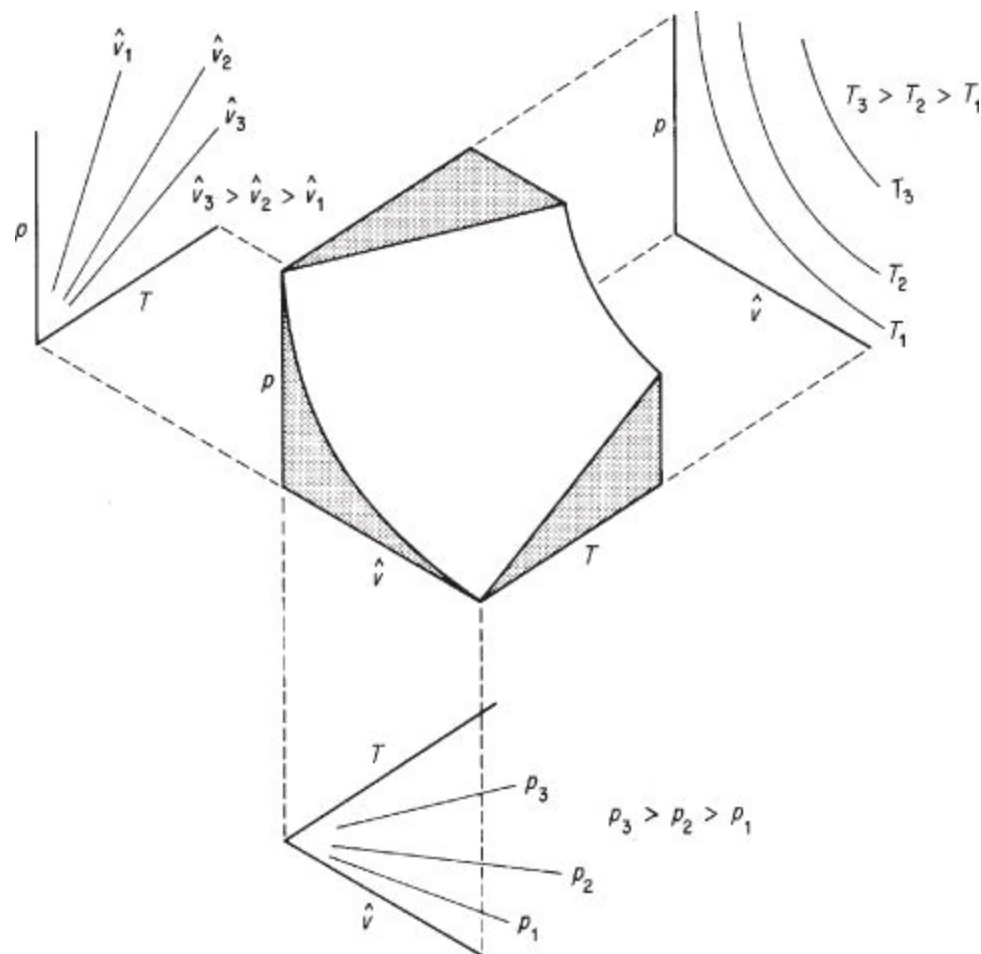

Figure 7.2. Representation of the ideal gas law in three dimensions as a surface
Note that in Equation (7.1a) \hat{V} is the *specific molar* volume (volume per mole, V/n) of the gas. When gas volumes are involved in a problem, \hat{V} will be the volume per mole and not the volume per mass. The inverse of \hat{V} is the molar density, moles per volume. Figure 7.2 illustrates the surface generated by Equation (7.1a) in terms of the three properties p , \hat{V} , and T . Look at the projections of the surface in Figure 7.2 onto the two-parameter planes. The interpretation is as follows:
Although you cannot easily measure the partial pressure of a gaseous component directly with commercial instruments, you can calculate the value from Equation (7.5) and/or Equation (7.6). To illustrate the significance of Equation (7.5) and the meaning of partial pressure, suppose that you carried out the following experiment with two nonreacting ideal gases. Examine Figure 7.2. Two tanks of 1.50 m³ volume, one containing gas A at 300 kPa and the other gas B at 400 kPa (both gases being at the same temperature of 20°C), are connected to an empty third tank (C) of the same volume. All of the gas in tanks A and B is forced into tank C isothermally. Now you have a 1.50 m³ tank of A + B at 700 kPa and 20°C for this mixture. According to Equation (7.5), you could say that gas A exerts a partial pressure of 300 kPa and gas B exerts a partial pressure of 400 kPa in tank C. Of course, you cannot put a pressure gauge on the tank and check this conclusion because the pressure gauge will read only the total pressure. These partial pressures are hypothetical pressures in tank C that the individual gases would exert if each was put into separate but identical volumes at the same temperature.